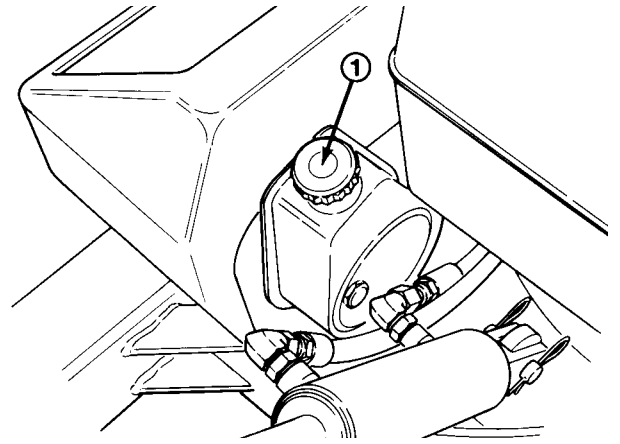

Figure 4
2. Remove the dipstick cap (Fig. 4) from the filler neck and wipe it with a clean cloth. Insert the dipstick cap into the filler neck; then remove it and check the level of fluid. If the level is not within 1.25 cm ($\frac{1}{2}$ inch) from the full mark on the dipstick, add SAE 10W-30 engine oil to raise the level to full mark. Do not overfill.